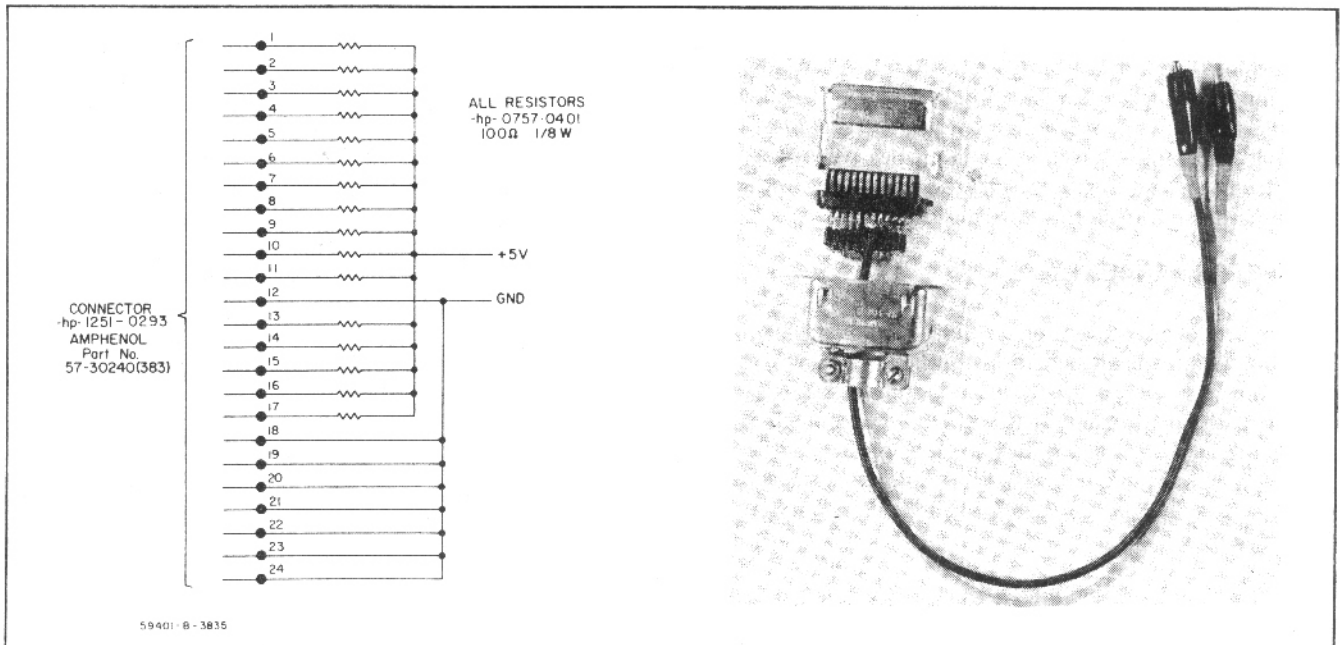

Figure 4-1. Test Load Construction.
- Test Load, See Figure 4-1
- e. Connect the Test Load, described in Figure 4-1, to the rear panel "HP-IB" connector. Connect the Test Load ground lead to the negative output of the Power Supply and the + 5 lead to the positive output.
e. Connect the Test Load described in Figure 4-1, to the rear panel "HP-IB" connector. Connect the Test Load ground lead to the negative output of the Power Supply and the + 5 lead to the positive output.